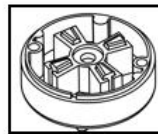

Figure 7
5. **Figure 7.** Apply a sealant to the contour of the housing with the brushes.